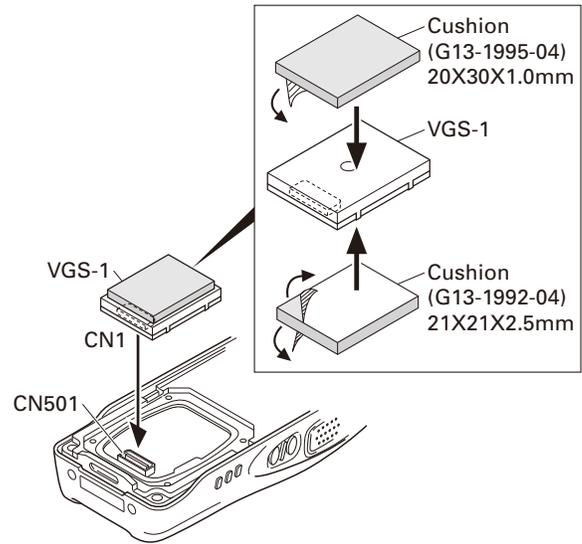

Fig. 3
4. Attach two cushions to the VGS-1 as shown in the figure 3.